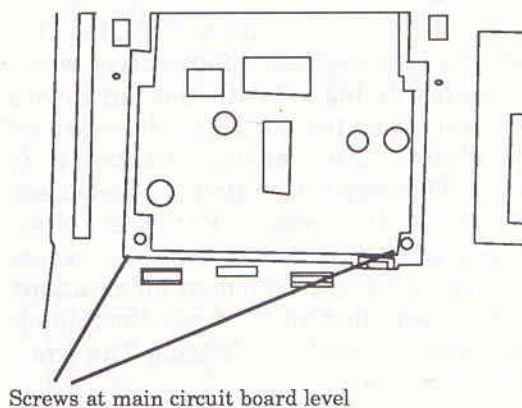

Figure 4 - Power Board screws
(9) At either side of the front of the power board inside the shielding you will see a screw attaching the power board leg to the STFM's main circuit board (as shown in figure 4). Unscrew both of these screws.
(10) Unscrew the screws (three on some STs and four on others) along the front edge of the ST's shielding. These fix the ST's main circuit board to the bottom of its case.
(11) Lift the top and bottom halves of the shielding slightly forward and up and remove them together from the bottom of the ST's case. Place the case bottom to one side. Put the main circuit board (contained within its shielding) on your work top.
(12) Before the top shielding can be removed you must disconnect the internal floppy disk drive. There are two slightly different models of internal drive for the STFMs, those with built-in controller circuitry and those without. If you have the large middle shielding then your STFM has a separate disk controller board.